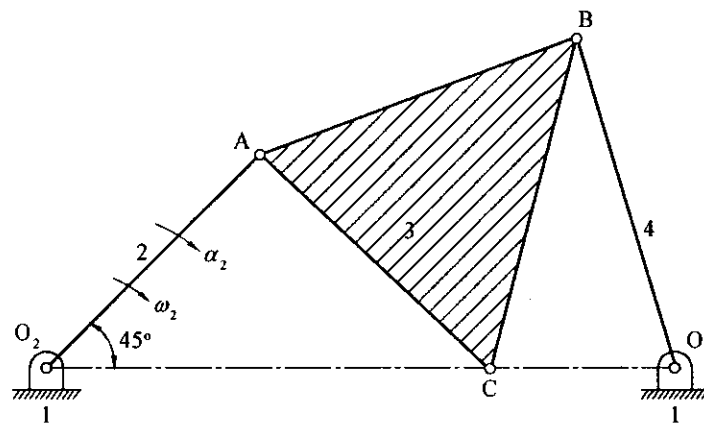

Fig. 3.42
11. The fig. 3.42 shows Robert's straight line mechanism in which point 'C' moves in a horizontal direction. O_2 and O_4 are the fixed points. O_2A is a crank 75 mm long and its velocity and acceleration are 20 rad/sec and 100 rad/sec² respectively, both clockwise. The dimensions of other links are " $AB = 75$ mm, $O_4B = 75$ mm, $\angle AO_2O_4 = 45^\circ$, $O_2O_4 = 125$ mm. The point C traces its path along horizontal line joining O_2O_4 . Find the velocities and accelerations of point C and link O_4B .